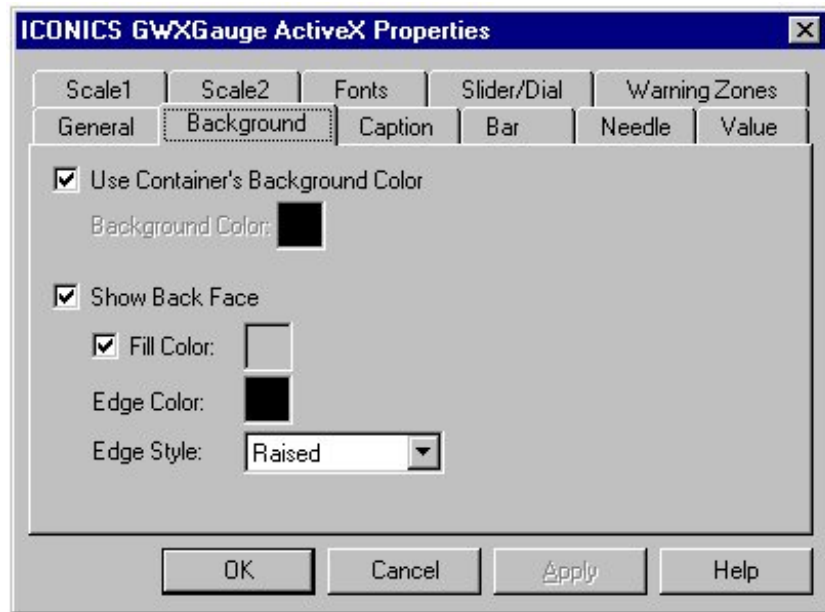

Figure 15-5: GWXGauge ActiveX Properties Dialog Box: Background Tab
2. Select the Background tab (Figure 15-5).